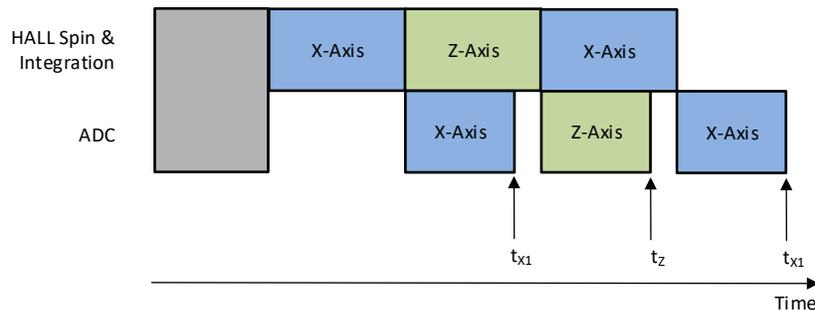

Figure 8-3. XZX Magnetic Field Conversion
In absolute angle measurement, application sensor data from multiple axes are required to calculate an accurate angle. The magnetic field data collected at different times through the same signal chain introduces error in angle calculation. The TMAG5170 offers pseudo-simultaneous sampling data collection modes to eliminate this error. Figure 8-3 shows an example where MAG_CH_EN is set at 1101b to collect XZX data. Equation 14 shows that the time stamps for the X and Z sensor data are the same.
- t_{x1} , t_z , t_{x2} are time stamps for X, Z, X sensor data completion as defined in Figure 8-3.